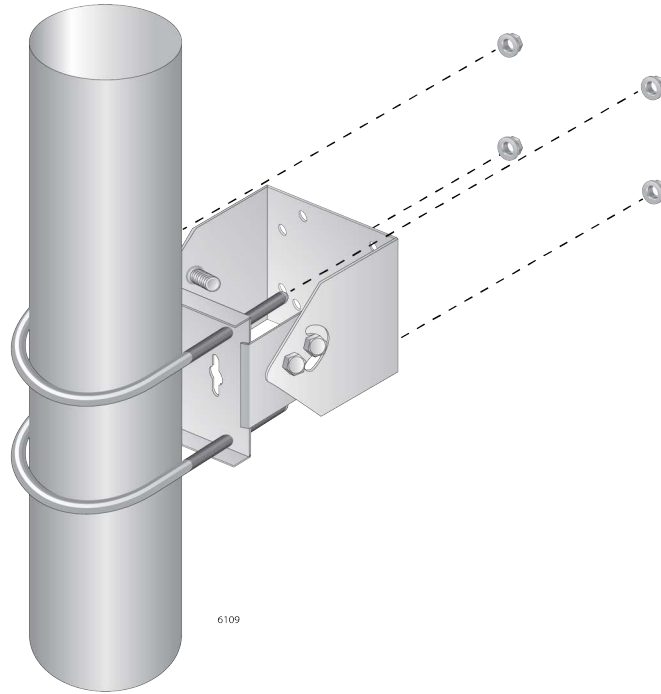

Figure 32. Attaching the Pole-Mount Bracket to the Pole
2. Attach the pole mount brackets to the pole with the two U-bolts. See Figure 32 on page 64.
Figure 32 shows how to attach the pole mount bracket to a vertical pole as an example. You can also install the bracket to a horizontal pole.